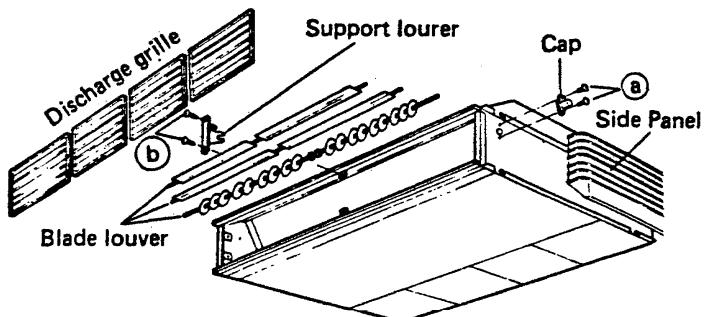

Fig. 15
- 4) Remove the two black screws (b) fixing the support blade louver with three blade louvers. Fig. 15